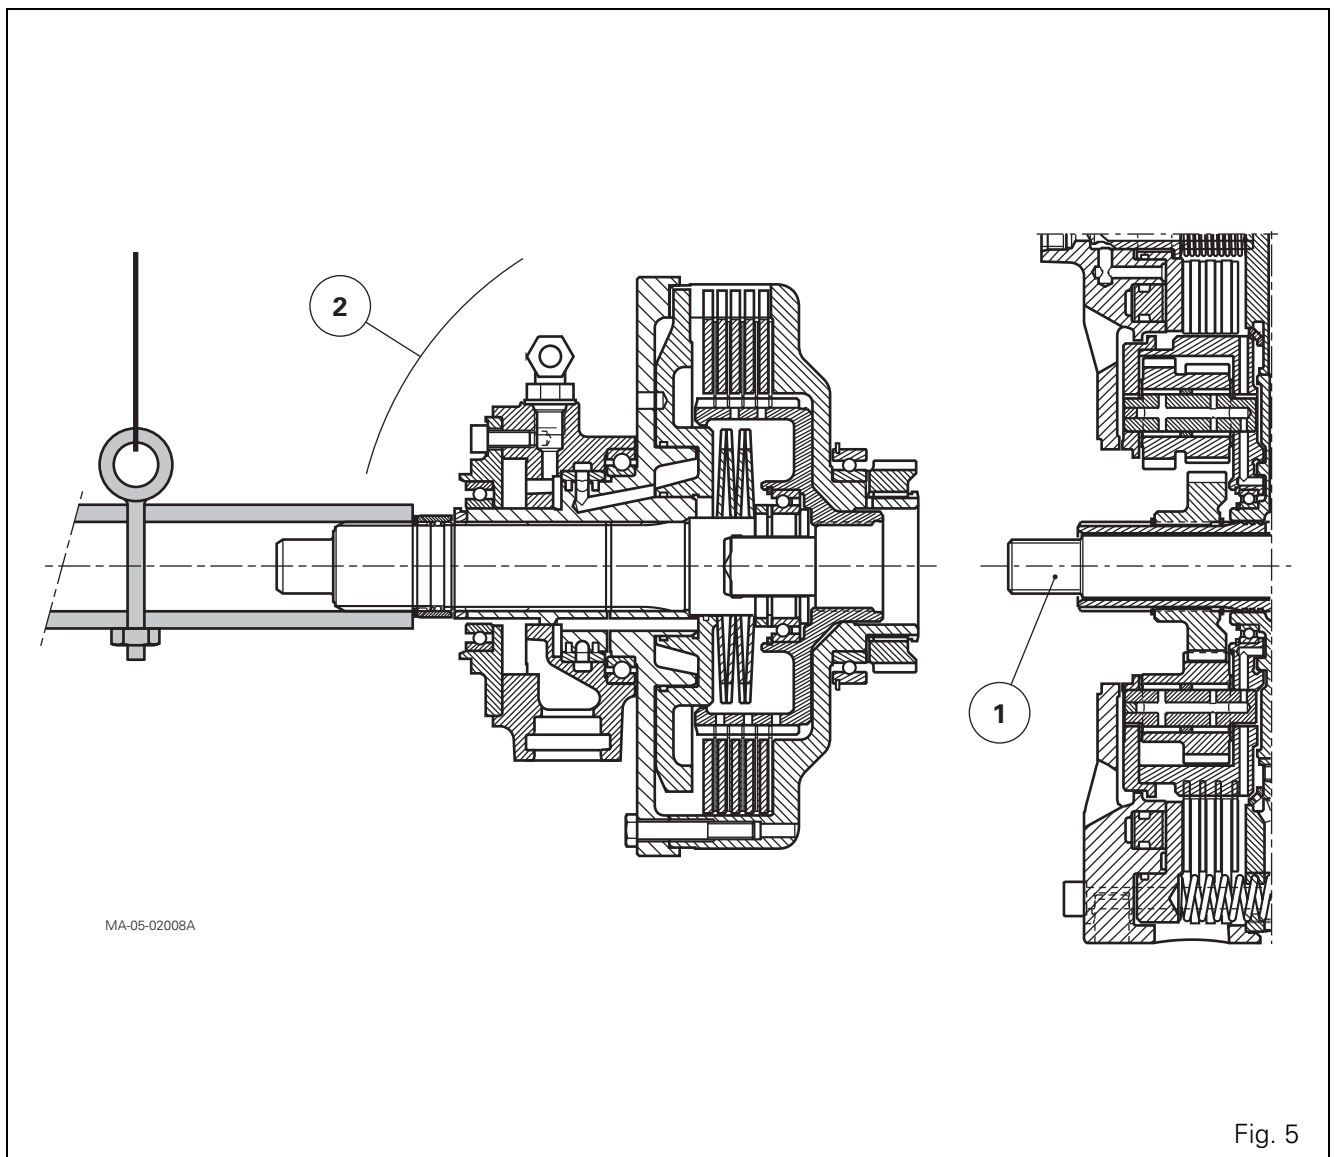

Fig. 5
6. Remove the forward clutch (2) (Fig. 5) and pull it from the housing using a locally made tool (see § G).
8. Check that PTO shaft (1) is installed (Fig. 5).
60. Install the clutch on the cover (38) of the reverse clutch, using the tool used in Fig. 5, § B.